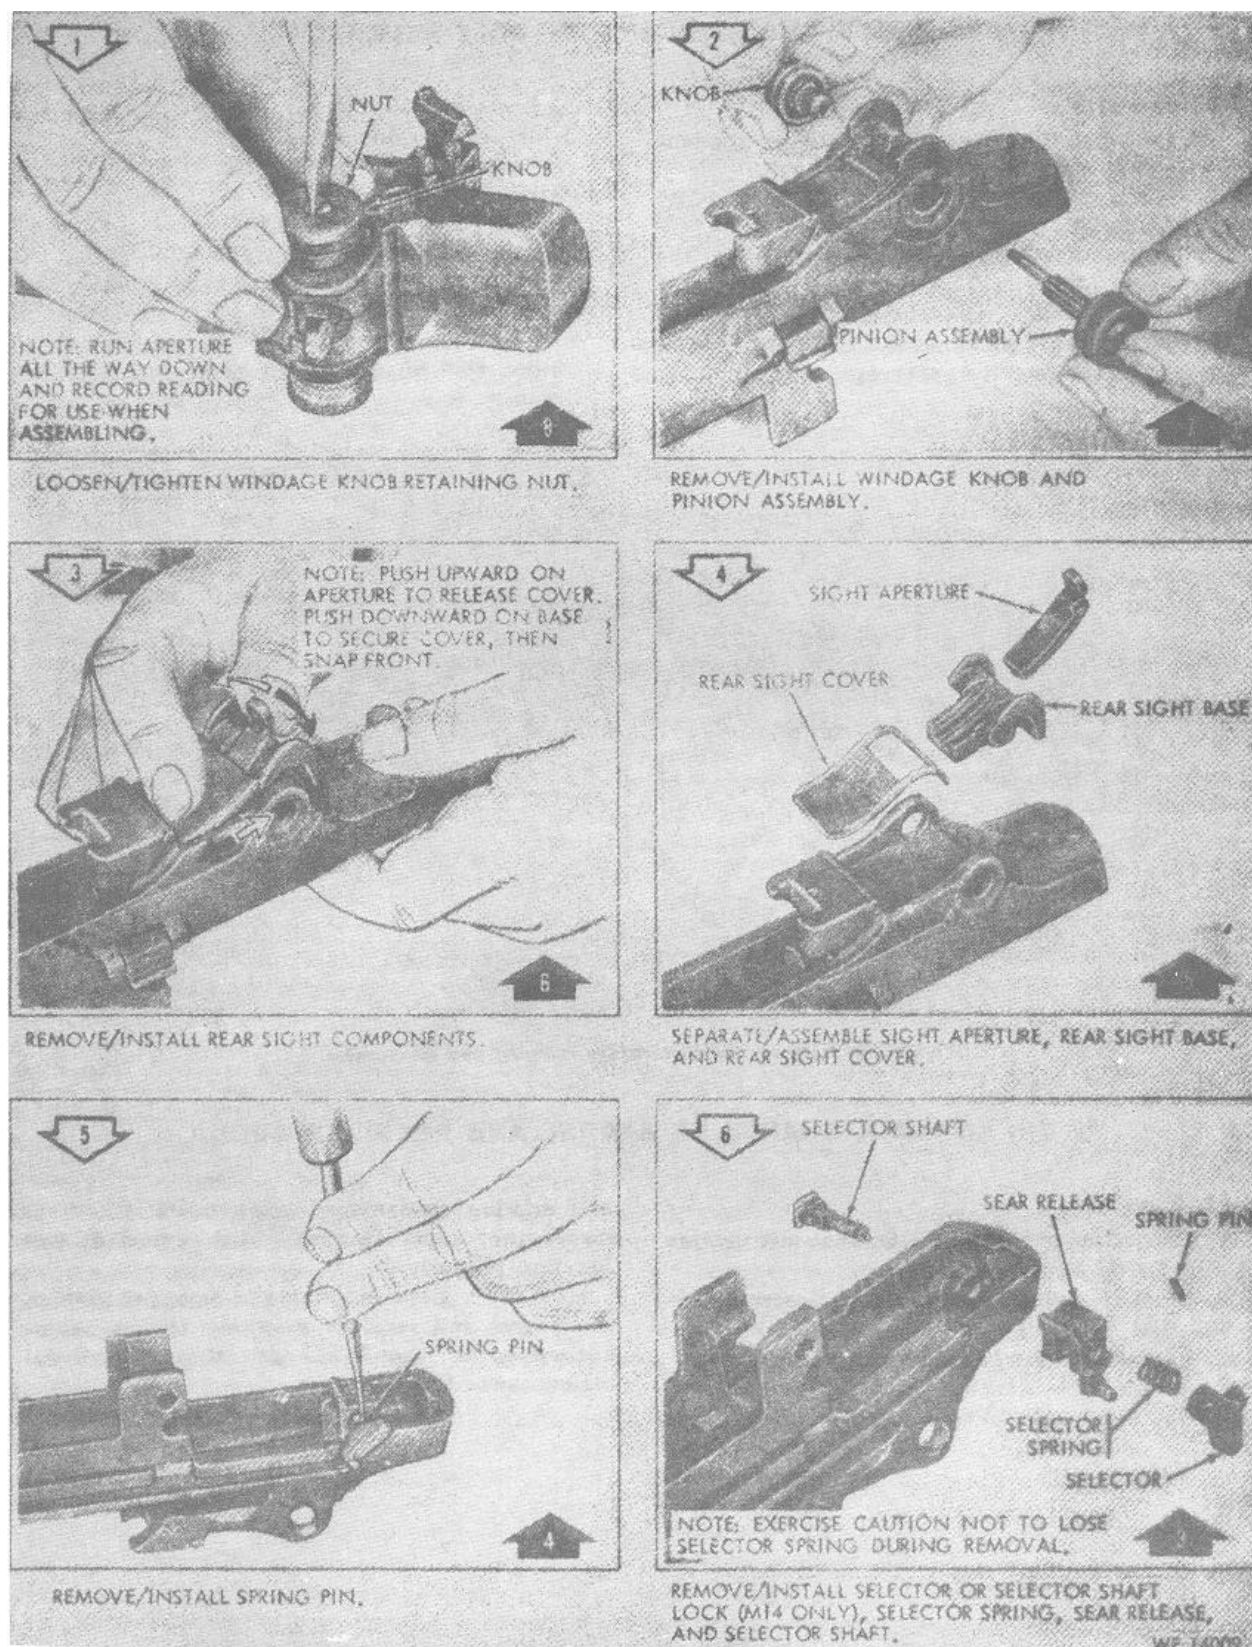

Figure 2-7. Remove / install component of the barrel and receiver assembly.
b. Removal/installation. Refer to figures 2-7 and 2-8 and TM 9-1005-223-10.